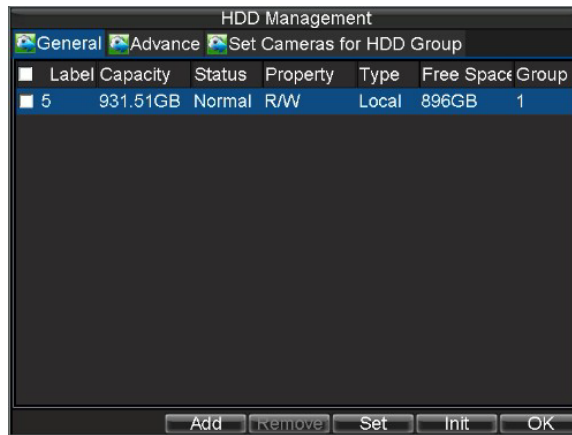

Figure2. HDD Management Menu
1. Enter the HDD Management menu, shown in Figure 2 by clicking Menu > HDD.